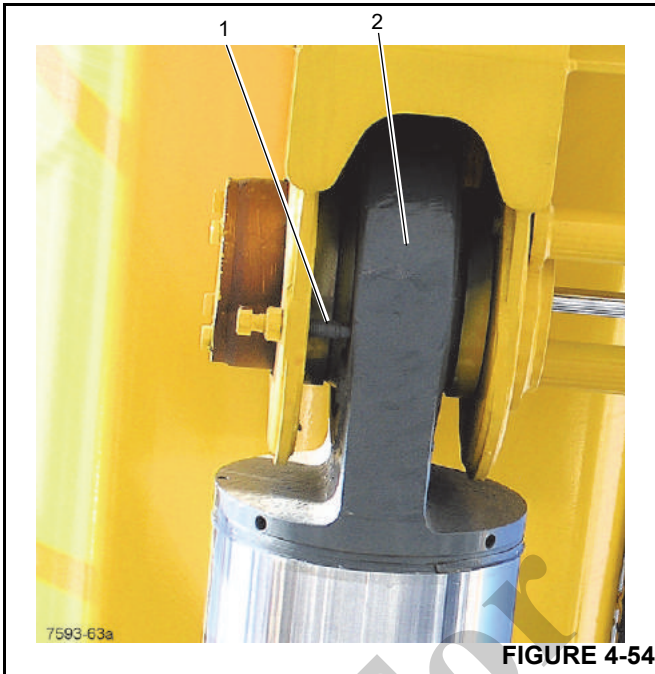

FIGURE 4-54
16. Adjust the top and bottom bolts (1) (Figure 4-54) to 0.04 in (1 mm) gap between the bolt and the lift cylinder rod end pivot (2). Ensure the rod end is centered in the pivot. Lock the centering bolt into place with the jam nut.